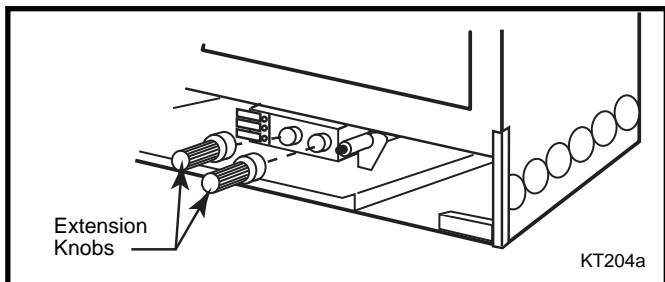

Fig. 62 Install the knob extensions. (Only for RN/RP models)
- c. Install the Control Knobs Extensions onto the appropriate Control Valve Knobs (Fig. 62)
On units fitted with a Honeywell brand control valve the location of the control knobs and the ignitor button may vary slightly from those shown in Figure 62. The Honeywell extension pieces are visually different in design and are not interchangeable with the RN/RP knobs shown in Figure 62.